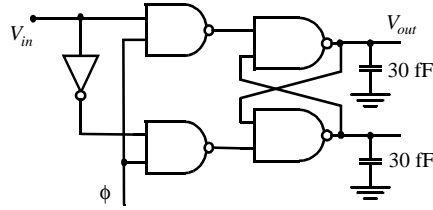

Figure 0.23 Simple synchronizer
**11.** Figure 0.23 shows a simple synchronizer. Assume that the asynchronous input switches at a rate of approximately 10 MHz and that  $t_r = 2$  nsec,  $f_\phi = 50$  MHz,  $V_{IH} - V_{IL} = 0.5$  V, and  $V_{DD} = 2.5$  V.